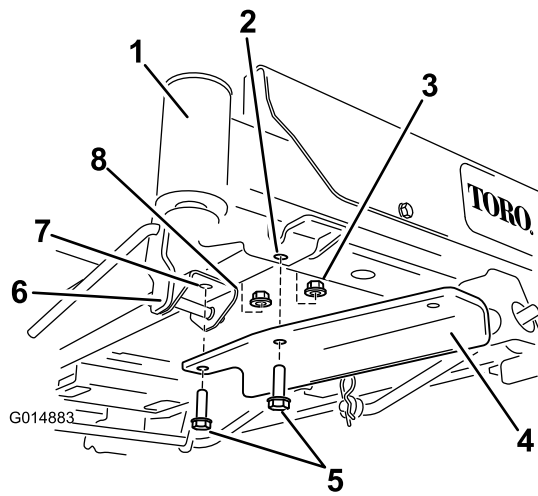

Figure 7
- For machines with a foot-assist lift pedal, Remove the forward fasteners in the foot assist lift pedal bracket and secure the bracket using 2 bolts and 2 locknuts (Figure 7).